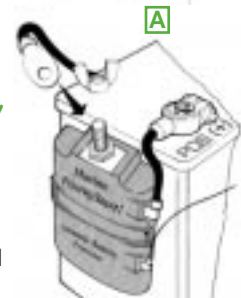

Figure 9
4. Connect boat Pos.(+) cable [A] securely to stud atop of PriorityStart! unit using wing nut from battery [Fig.9].
5. Connect PriorityStart! Red Cable (item ④) securely to Pos.(+) terminal post on boat battery [Fig. 9].